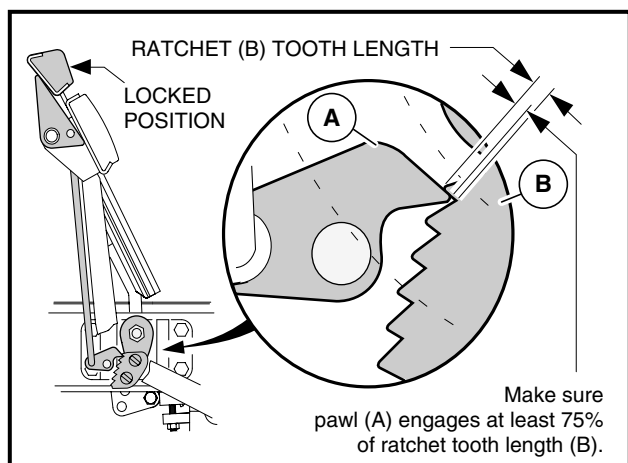

Figure 5-16 Ratchet/Pawl Tooth Engagement
- 3.4. With the park brake locked, make sure at least 75% of ratchet tooth length engages the pawl (**Figure 5-16, Page 5-18**). Tooth engagement should be between the two lines marked on the pawl.